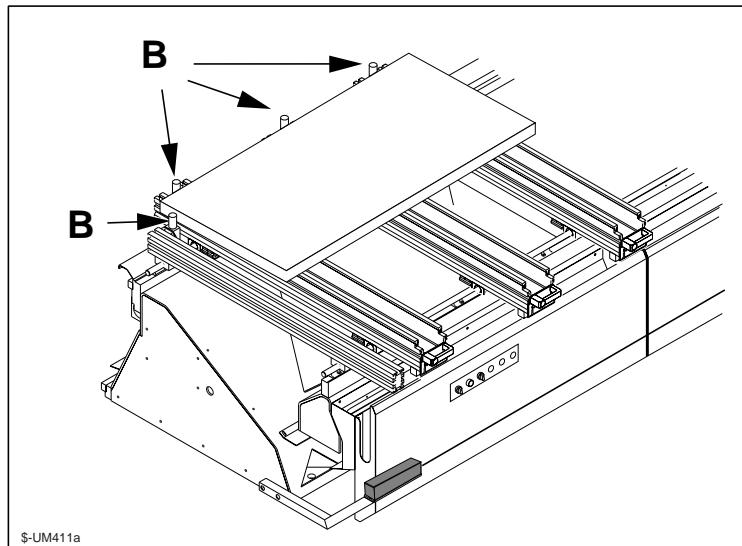

Fig. 4.8a
- slide the panel on the work tables, positioning it against the reference stops B (Fig. 4.8a)